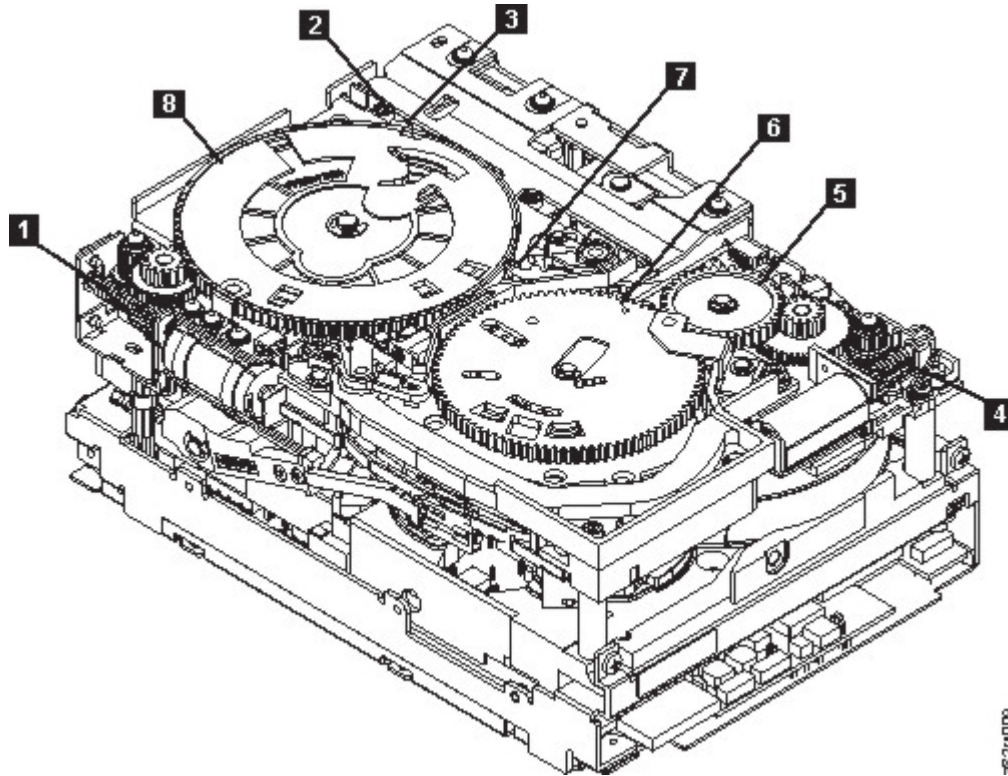
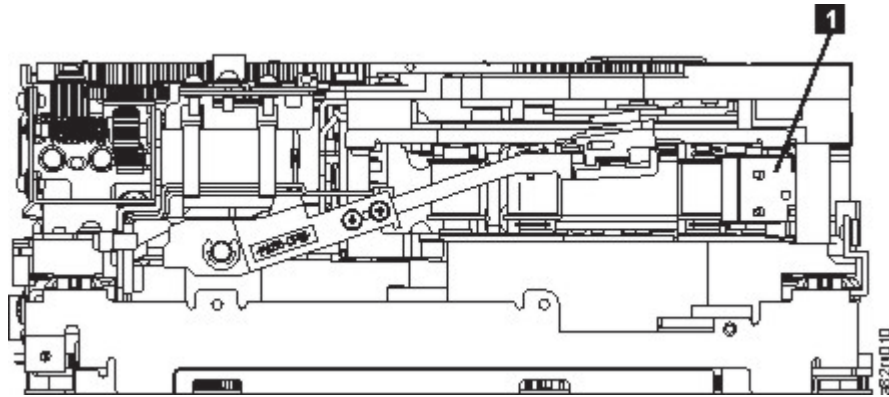

Figure 123. Drive with cover removed to reveal gear train.
Figure 124. Leader Block Assembly (LBA)
6. Locate the threader motor worm gear (4 in Figure 123 on page 254) on the rear of the drive. Use your finger to rotate the threader motor worm gear and slowly rotate the threader mechanism gear (6 in Figure 123 on page 254) clockwise.
- This action rotates the threader motor worm gear (4 in Figure 123 on page 254) clockwise, drawing the LBA into the cartridge.
7. As the tape leader block assembly (LBA) is secured in the cartridge, you hear the LBA retention spring clips click into place. If you do not hear the click, continue rolling until the threader motor worm gear (**4** in Figure 123 on page 254) stops. The LBA is in the correct position.
- Loader mechanism gear (**6** in Figure 123 on page 254) nearest the front of the drive that actuates the cartridge loader mechanism.
- Position of the rotate stub (**3** in Figure 123 on page 254).
- Front loader motor worm gear (**1** in Figure 123 on page 254). Rotating this gear allows the loader mechanism gear (**8** in Figure 123 on page 254) to turn.
9. Rotate the loader motor worm gear (**1** in Figure 123 on page 254) to turn the threader mechanism gear (**6** in Figure 123 on page 254) counterclockwise. Continue turning until the rotator stub (**3** in Figure 123 on page 254) loses contact with the lever (**7** in Figure 123 on page 254). This action releases the LBA leader pin.
10. Rotate the threader motor worm gear (**4** in Figure 123 on page 254) to turn the threader mechanism gear (**6** in Figure 123 on page 254) counterclockwise. This action moves the LBA out of the cartridge and past the read/write head. Stop this rotation when the LBA is near the tape guide roller nearest the rear of the drive that is shown as **1** Figure 124 on page 255.
11. Continue rotating the loader motor worm gear (1 in Figure 123 on page 254) until the rotator stub (3 in Figure 123 on page 254) is positioned as shown. Notice that the rotator stub (3 in Figure 123 on page 254) is nearly aligned with the cartridge loader tray guide bearing (2 in Figure 123 on page 254).